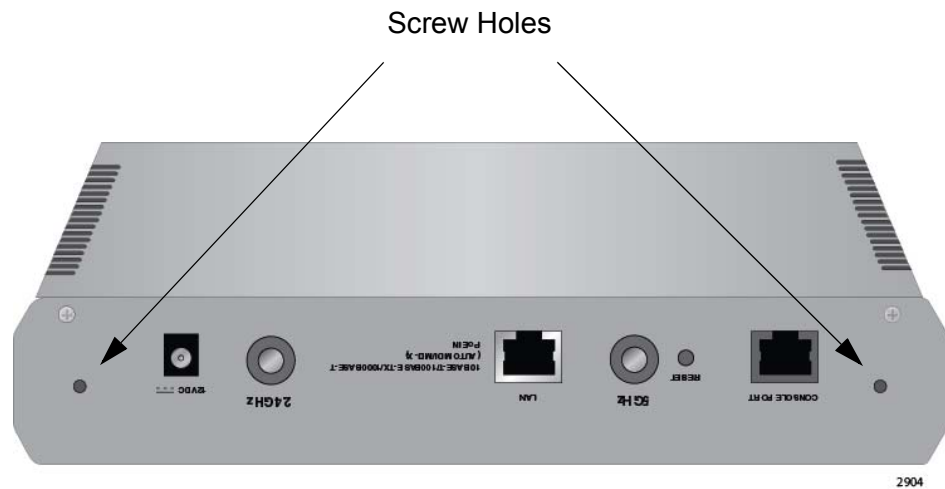

Figure 20. Screws Holes for Securing the Top Panel to the Access Point
2. Locate the two screw holes on the rear panel. The holes are used to secure the top panel to the access point. Refer to Figure 20.